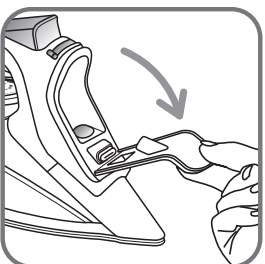
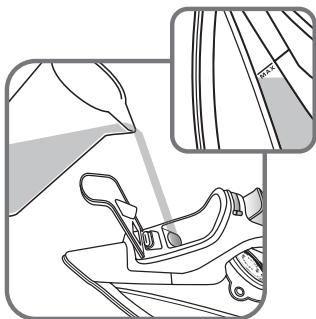

fig.4
fig.5
- Open the filling inlet **fig.4**. Fill in water up to the Max. mark. **fig.5**. Close the filling inlet and return the iron to the horizontal position.